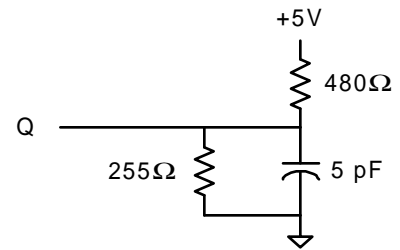

Fig. 2 OUTPUT LOAD EQUIVALENT
- Output loading is specified with  $C_L=5pF$  as in Fig. 2. Transition is measured  $\pm 500mV$  from steady state voltage.